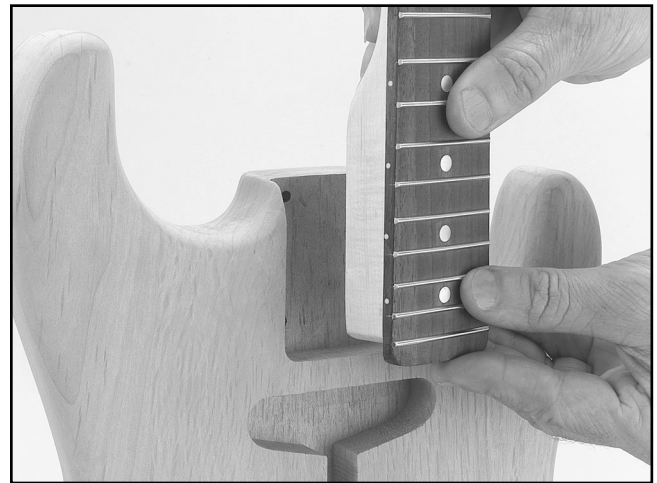

Figure 12. The neck should fit snugly into the neck pocket.
2. Place the neck into the neck pocket (**Figure 12**). Note—*Make sure the neck is fully seated into the neck pocket. No gaps should be visible between the neck and the body.*